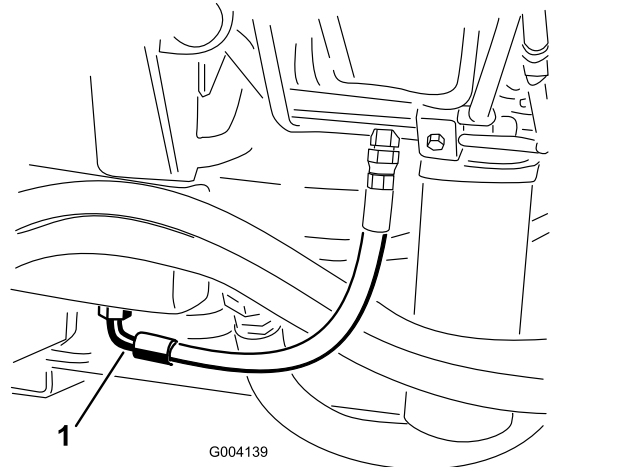

Figure 88
2. Place a large drain pan under the fitting secured to the bottom of the hydraulic-fluid reservoir (Figure 88).